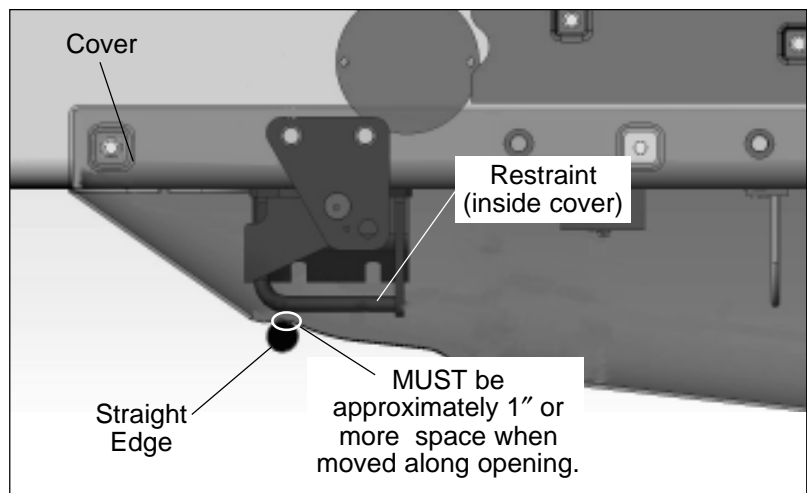

Figure 3 — Correct Cover Opening
4. Move the straight edge back and forth over the opening and measure the distance between the straight edge and the metal upper boom restraint (refer to Figure 3). If there is a distance of approximately 1 inch or more between the boom restraint and the straight edge along the entire cover opening, the cover can stay on the boom. If there is less than approximately one inch distance between the metal upper boom restraint and the straight edge at any point as the straight edge is moved along the opening, the cover must be replaced.